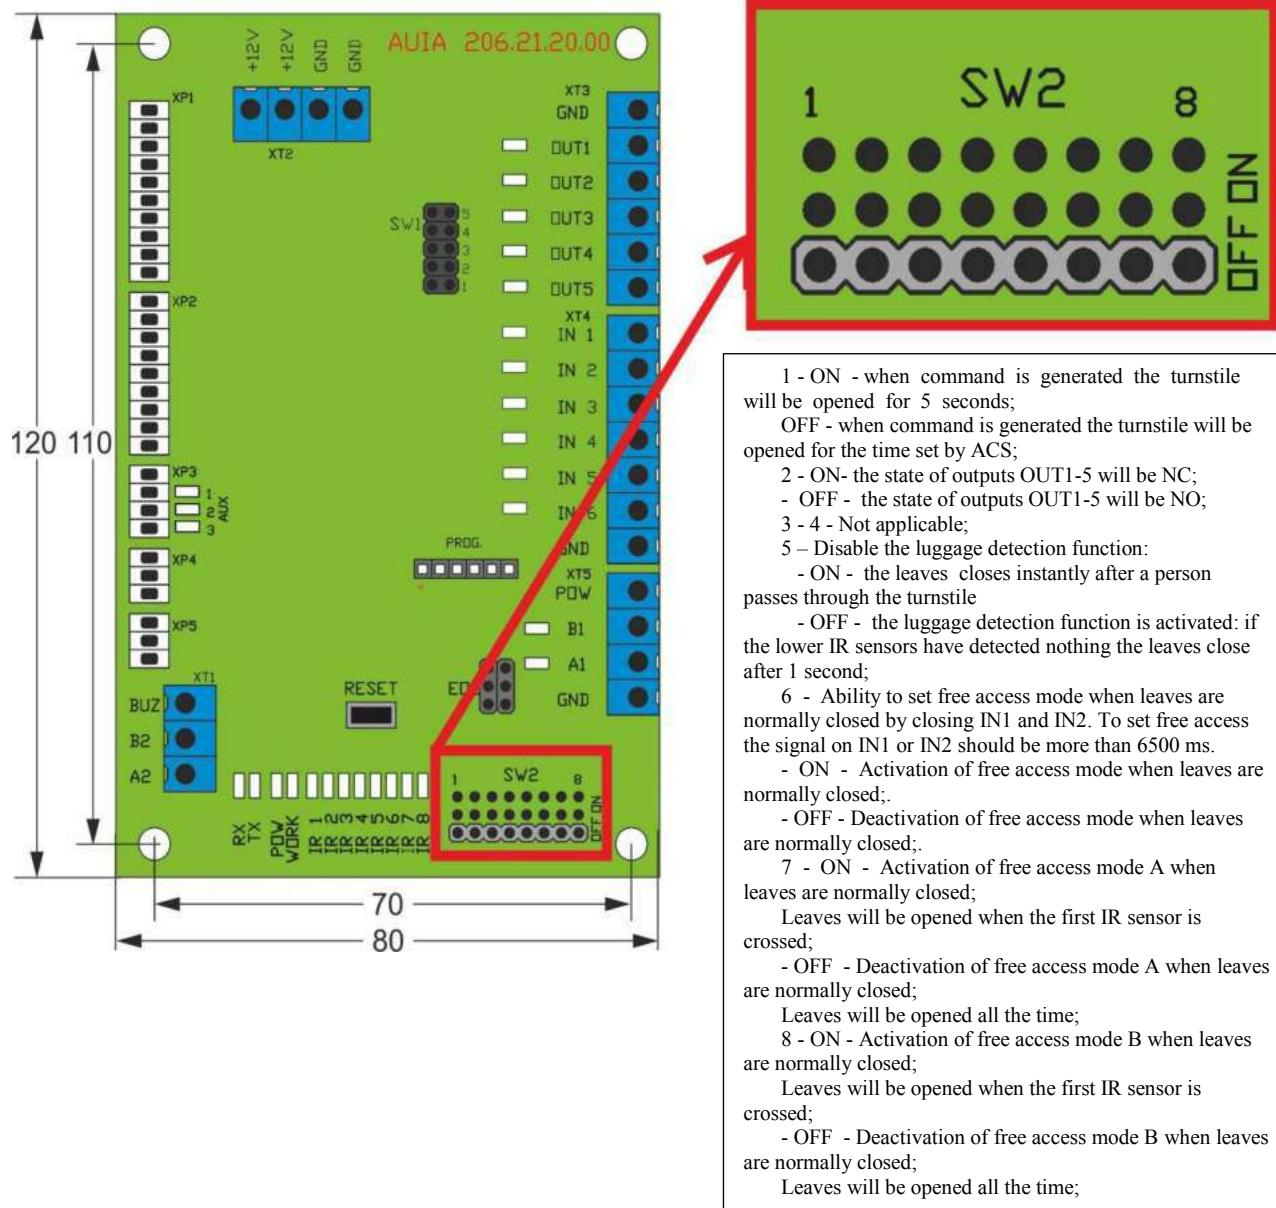

Fig.6 – Appearance and configuration of controller AUIA.206.21.20.00
1.5.1.1 Controller AUIA.206.21.20.00 is shown in *Figure 6*.